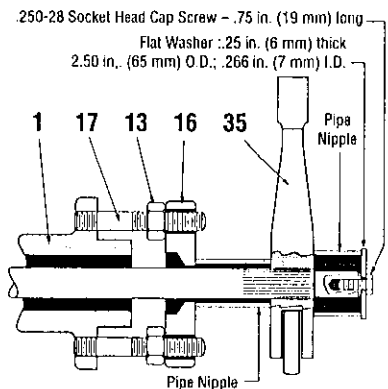

Figure 7
7. The simplest way to remove internal parts is to pull them all out of the body at once. Remove the stud nuts (13) from the packing flange studs (17) and yoke studs (14). With a mallet, tap the yoke off the body mounting flange and remove the yoke assembly, plug shaft with lever and internal parts.
8. If the plug shaft won't move easily, loosen the lever setscrew (37), tap off the yoke (34), lever (35), packing flange (16) and packing gland (15). Slide the lever onto the shaft backwards and tighten setscrew (37). Use a mallet to tap out the shaft and other parts.
9. If internal parts cannot be moved by tapping the tightened lever, remove the packing. Then by using a pipe nipple of suitable size between packing flange and tightened lever (35), and reversing the packing flange and nuts (13) as shown in figure 7, the shaft and internal parts may be jacked out of the body by unscrewing nuts (13). (See figure 7). For large valve sizes, the use of an additional washer, an other pipe nipple and ¼" - 28 NF screw to assist in holding the lever on is recommended. The nuts should be tightened flush with the end of the splines. The upper guide bushing and spacer tube may remain in the